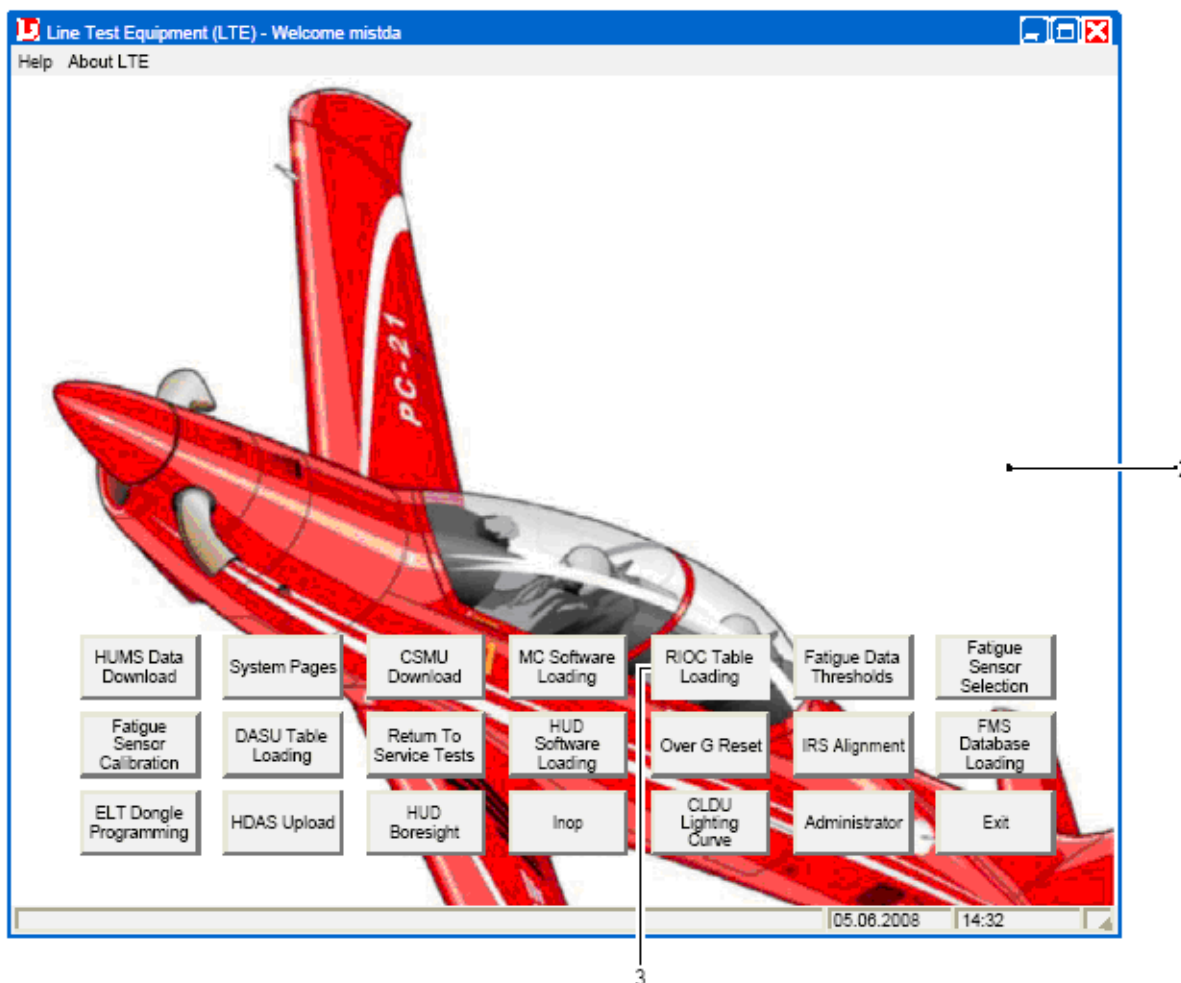

Figure 1
- (2) Put the LTE Configuration Files CD in the CD drive of the notebook.
- (3) Double click the LTE icon (Ref. Fig 1, Item 1) to start the LTE software.
- (4) Select the RIOCC Table Loading button (Ref. Fig 1, Item 3).
- (5) Click on the Yes button on the Utility Launch pop up box.
- (6) When prompted, select the aircraft tail number from the drop down menu, then click OK.